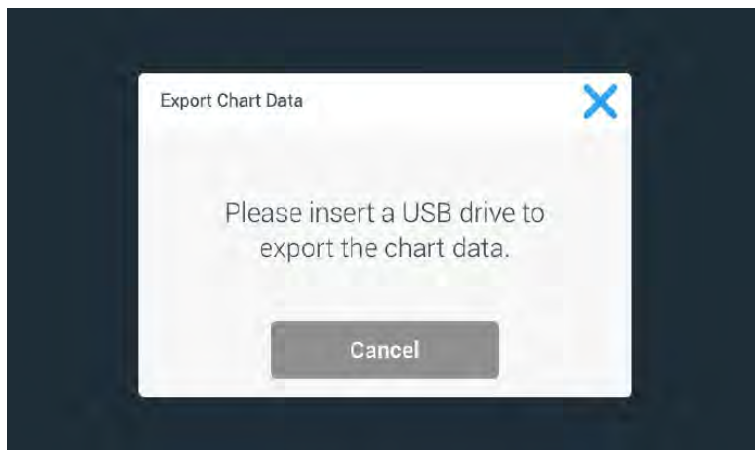

Figure 7-111. Pop up - Export Chart Data
- Tap “Standby Mode” in the settings menu. The standby screen (Figure 7-111) is displayed.